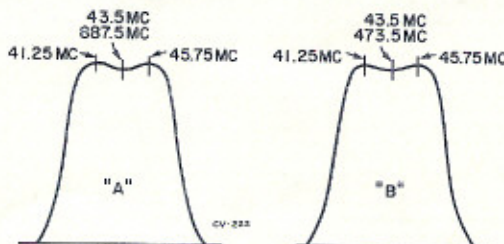

Figure 32—Tuner UHF R-F Responses
Adjust R-F trimmer capacitor tabs C804 and C805 for a maximum amplitude overcoupled response curve centered at 887.5 mc. as shown in figure 32 (A).
Adjust the oscillator trimmer capacitor C306 until the 43.5 mc. marker coincides with the marker at 887.5 mc. The markers for 41.25 and 45.75 should be symmetrically located on the top of the response curve as in figure 32(A).